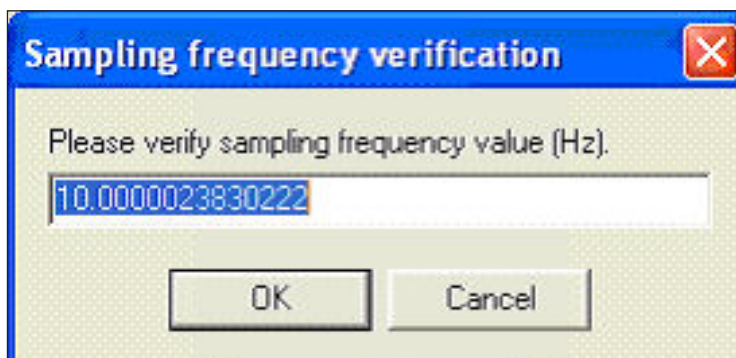

Figure 3: The Sampling frequency verification window.
- Click on the “Create” button, and EdiRe will open the “Sampling frequency verification” window with the estimated sampling frequency filled in for the raw time series file you have selected from the “EdiRe Raw Data File Interpreter” window (see Figure 3).